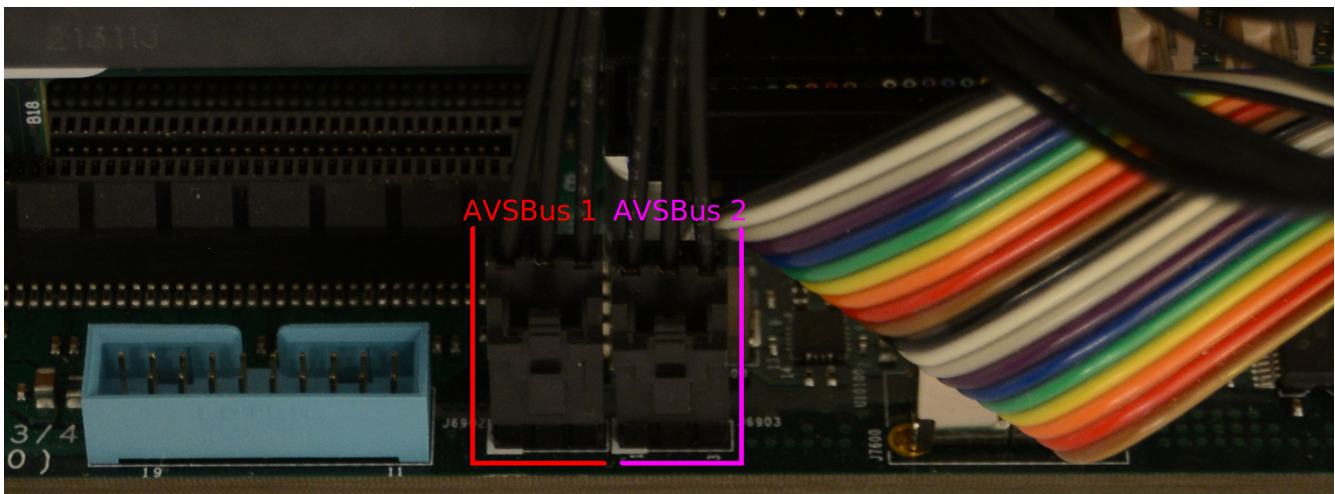

Figure 10: AVSBus Cable Installation
- ☐ Plug the two AVSBus connectors into their respective headers on the Talos II host system as shown in Figure 10. AVSBus1 is normally provided by J100 on the BMC card, while AVSBus2 is normally provided by J101 on the BMC card. This is reconfigurable in HDL and firmware, so while the Kestrel BMC stack will be using these assignments, other BMC stacks may require different wiring.